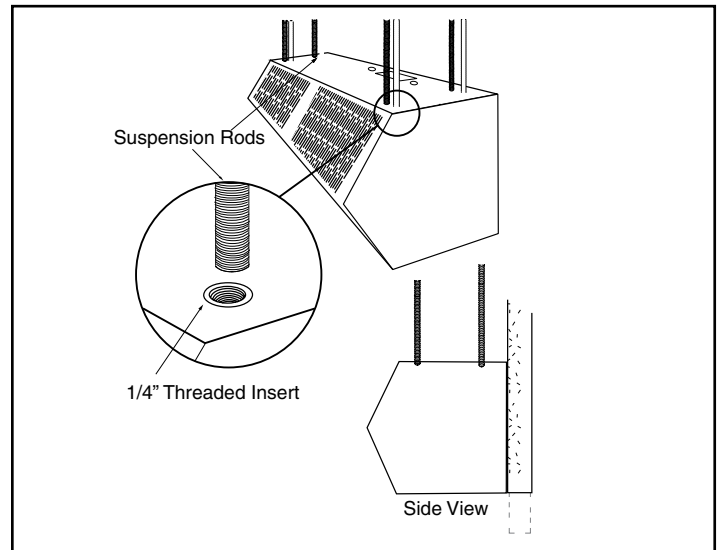

FIGURE 8 - Suspended Mounting
- A. For top mounting using suspension rods, four (4) factory installed 1/4" threaded inserts are located in the top of the air curtain. **See Figure 8.**